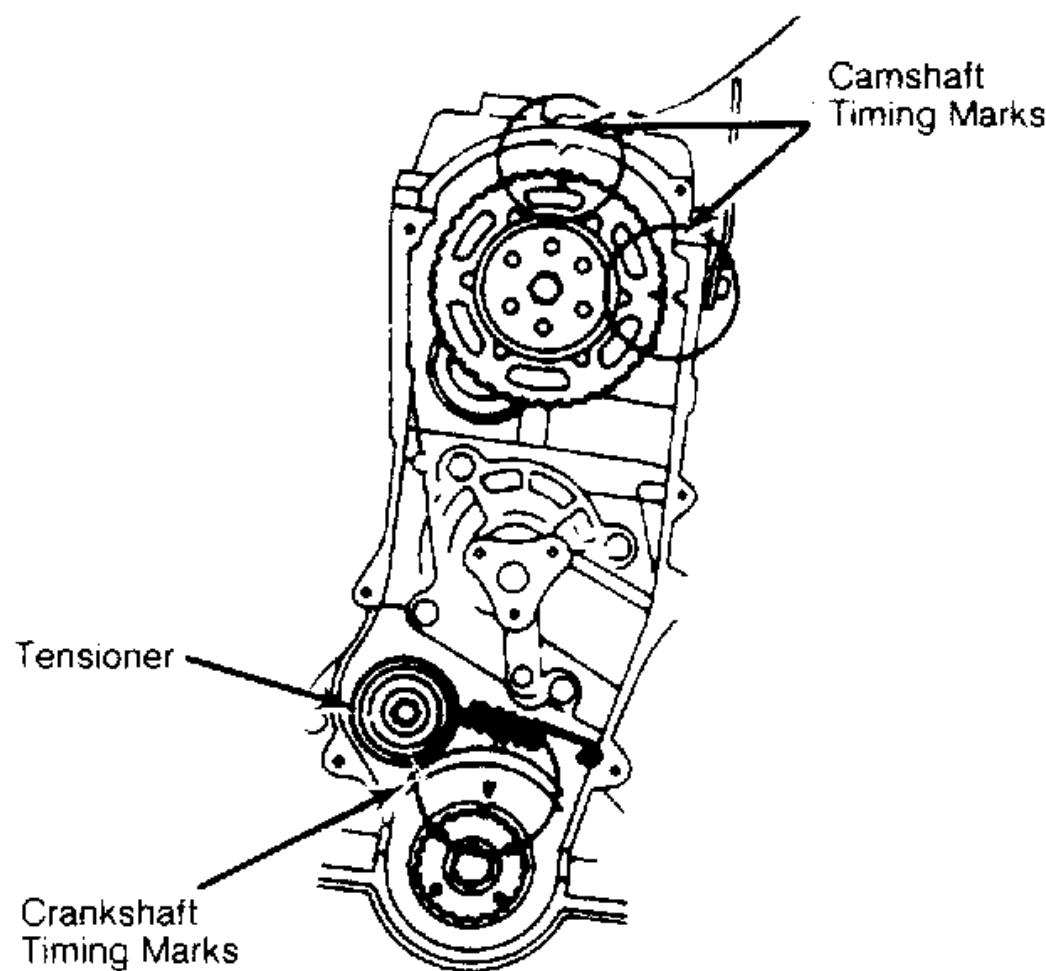

Fig. 3: Aligning Camshaft & Crankshaft Timing Marks (1.3L)
1. Ensure timing belt and sprockets are clean and not worn or damaged. Align crankshaft and camshaft timing marks. See Fig. 3 . No. 1 cylinder must be at TDC of compression stroke.